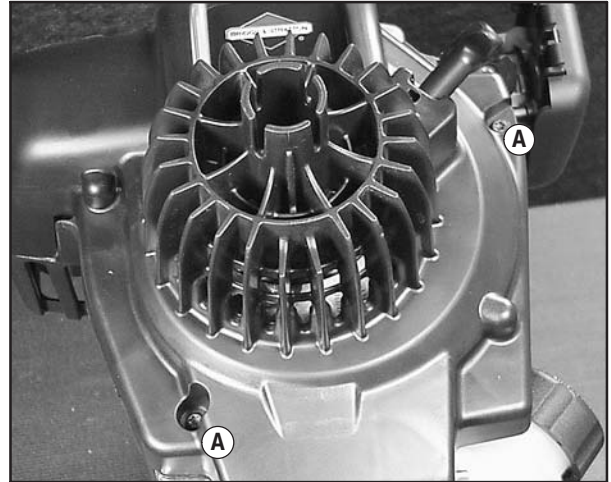

Fig. 1
1. Remove 2 machine screws (A) from blower housing Fig. 1.